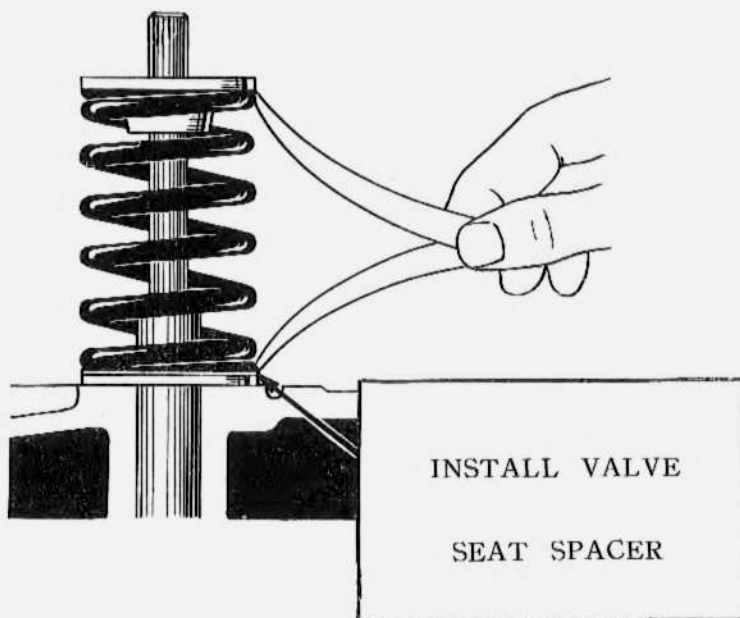

Figure 26 – Checking Installed Length of Valve Spring
(4) After reassembling valves, check the installed length of valve springs. The installed length is measured from the point where the spring contacts the valve spring seat up to the point where it contacts the valve spring cap (Fig.26).